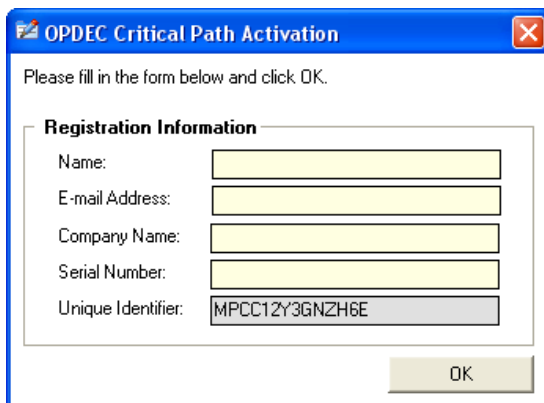

Figure 2a
- ii. Enter your name, email, company name, and the serial number that you were issued. Then click OK. (Figure 2a)